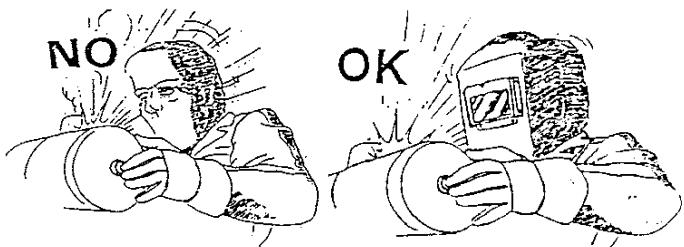

Fig.2
- Warning: Never stare at an electric arc without suitable eye protection (Fig. 2).